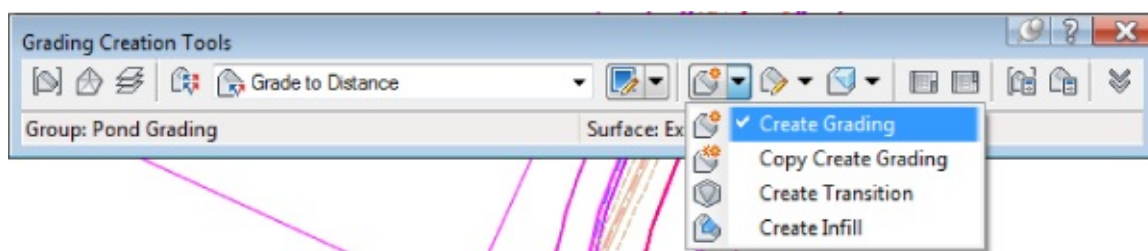

Figure 14.34 Creating a grading using the Grade To Distance criteria
11.  On the Grading Creation Tools toolbar, verify that Grading Criteria is set to Grade To Distance and click the Create Grading tool, or click the down arrow next to the Create Grading tool and select Create Grading, as shown in Figure 14.34.